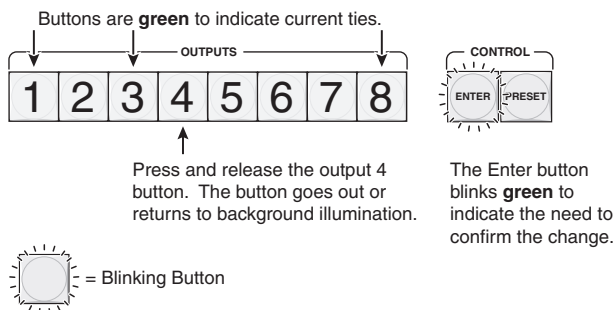

Figure 3-14 — Deselect an input
2. Press and release the output 4 button (figure 3-14). The output 4 button returns to either unlit or to background illumination, while the output 1, output 3, and output 8 buttons remain lit green. The Enter button blinks to indicate that a potential change to the configuration needs to be confirmed.